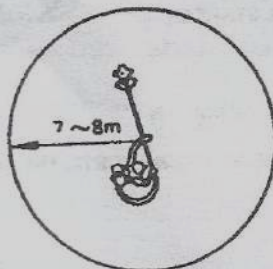

Fig. 13
* Adjustment (Fig. 13)
- 3) Keep the onlookers out of the working area at least 7~8m(30ft). (Fig. 13)